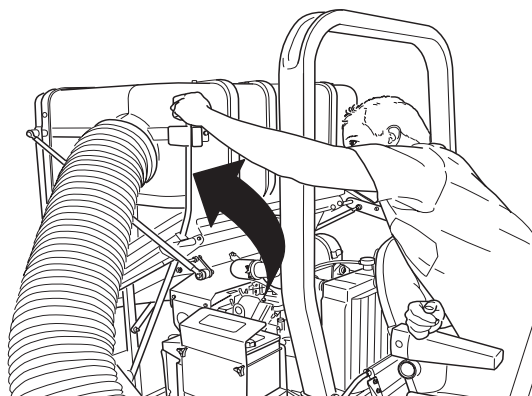

Figure 1-2. Closing the Hopper Door
C. Once the material has been completely removed from the hopper, lift the hopper door handle to close the hopper door and lock into place. See Figure 1-2.